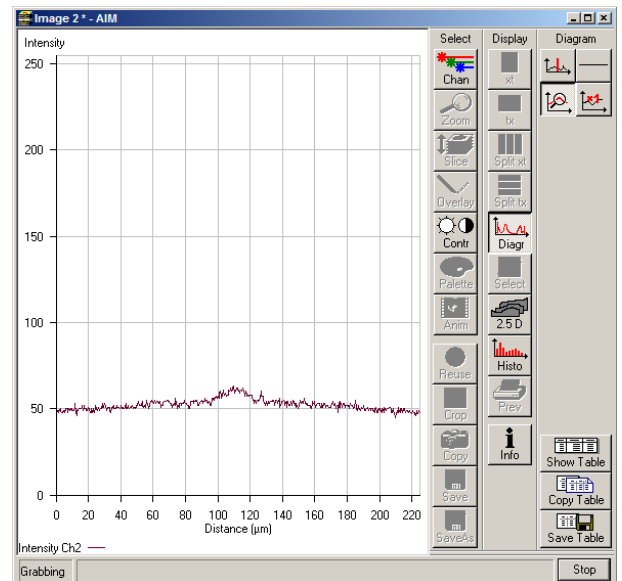

Fig. 4-18 Line diagram near the lower cover slip surface
- If the focus position approaches the lower cover slip surface, the position of the line will shift to higher values (see Fig. 4-18).